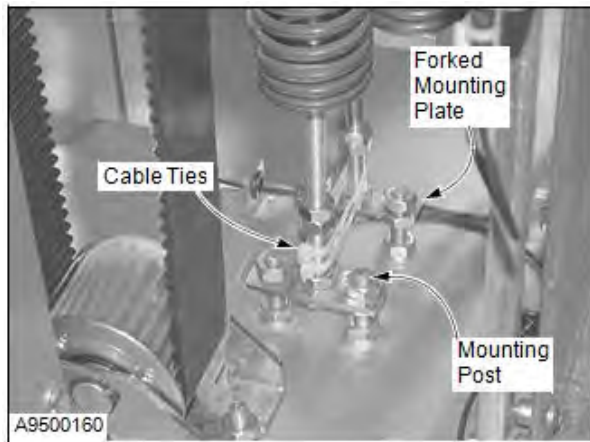

Figure 62
4. Disconnect the old spring pack assembly from the base plate. The spring pack is held in place by two hex nuts threaded onto a pair of mounting posts. (See Figure 62.)